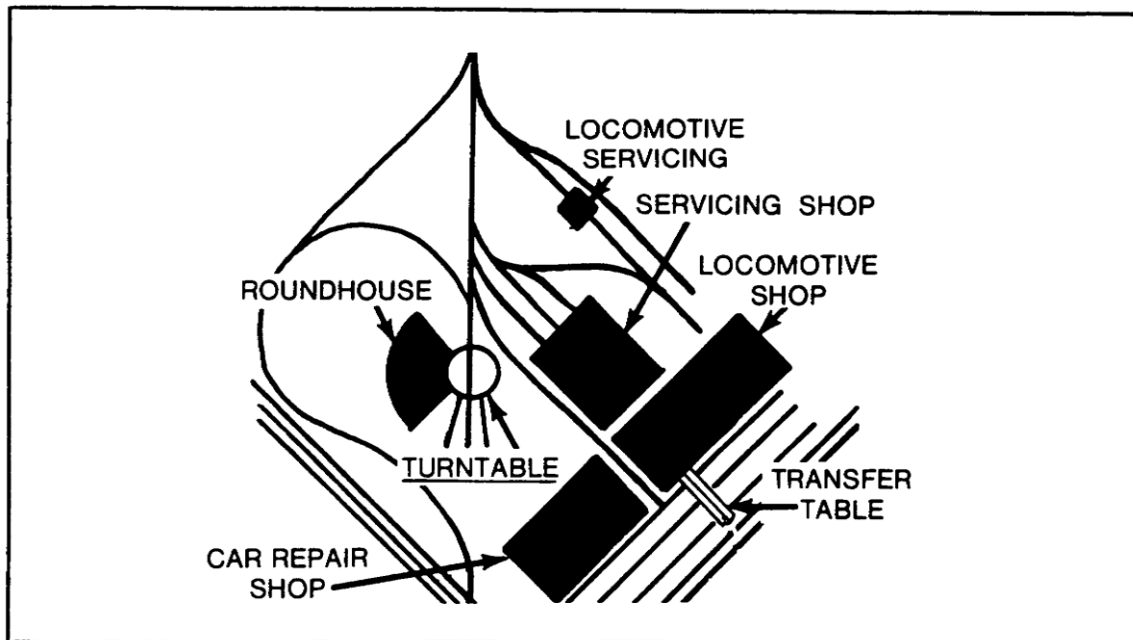

Figure 1-13. Typical Service and Repair Facility.
1. Service and repair areas are important to any railway system. Since classification and freight yards are terminals for incoming trains, and the centers from which newly formed trains start, they form a very convenient place for service and repair of rolling stock. The repair and servicing installations may vary in size and complexity from a watering tower or coaling station, to a complex grouping of routine servicing during and after each trip, where locomotives and rolling stock are given minor repairs and adjustments as needed. Service and repair for locomotives is generally accomplished in the roundhouses. Adjacent to the roundhouses are other service and repair facilities such as coaling stations, fueling facilities, water and sand towers, and servicing pits (Figure 1-13).